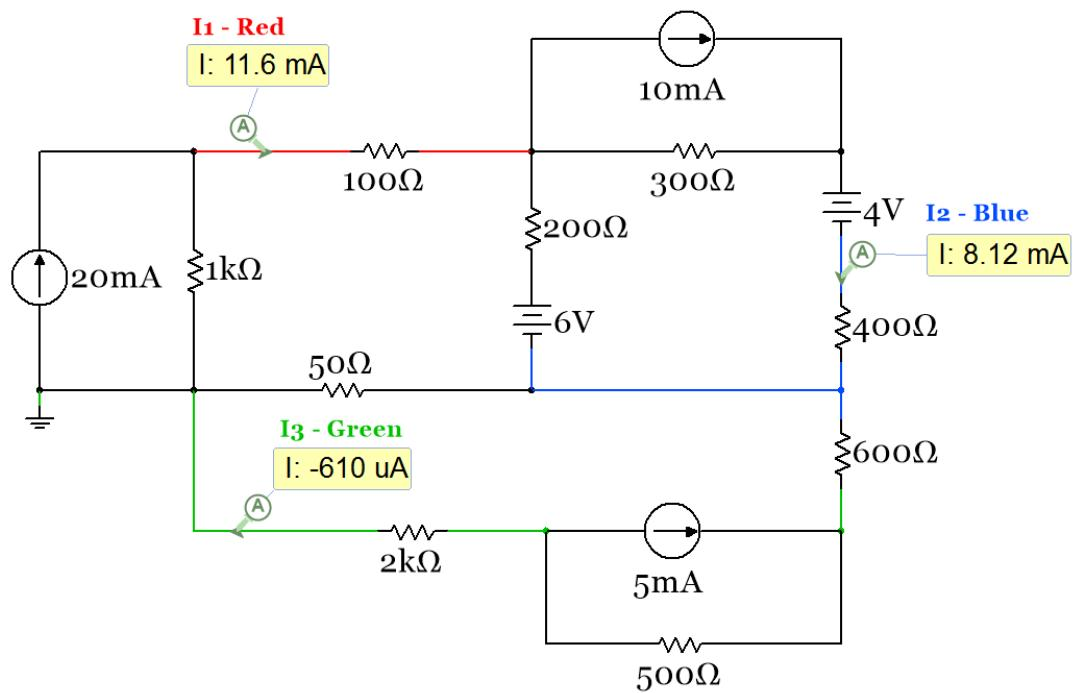

Figure 2.15: Circuit for example 2.8.
Example 2.8) Solve the circuit in Figure 2.15 for the 3 currents shown with the Multisim current probes using the Mesh Matrix Method. Source Transformations must be performed so that all sources are voltage sources.
- 3) The matrix in Figure 2.15 produces positive I₁ and I₂ values so those currents are clockwise. We will also assume I₃ is also clockwise, but it is calculated as negative which means it is counter-clockwise.